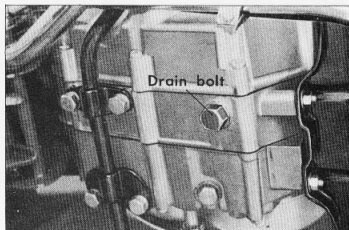

Figure 6-28. Removing drain bolt
- a. Remove the oil cap and drain the engine completely of oil by unscrewing the plug at the bottom of the engine. (Fig. 6-28, 6-29)